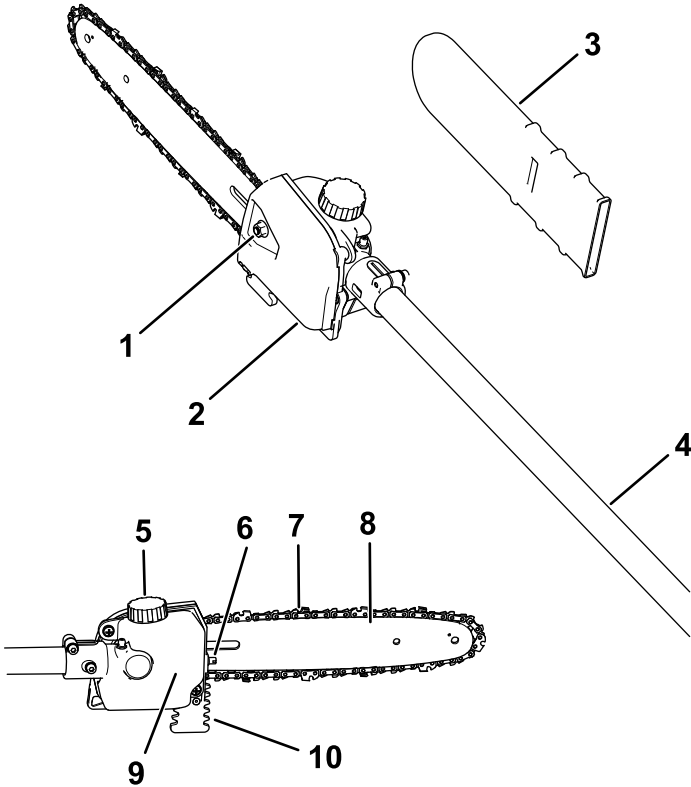

Figure 5
2. Loosen the screw-handle on the shaft connector (Figure 5).
3. Press the locking button down while pulling the 2 shafts apart (Figure 5).